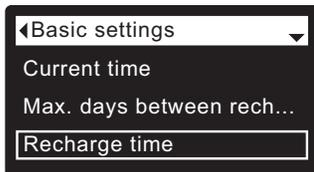

FIG. 52
3. Press the **SELECT** (O) button to display the Basic settings menu (See Figure 52).
7. Press the **SELECT** (O) button. The display will go back to the Basic settings menu (Figure 52).